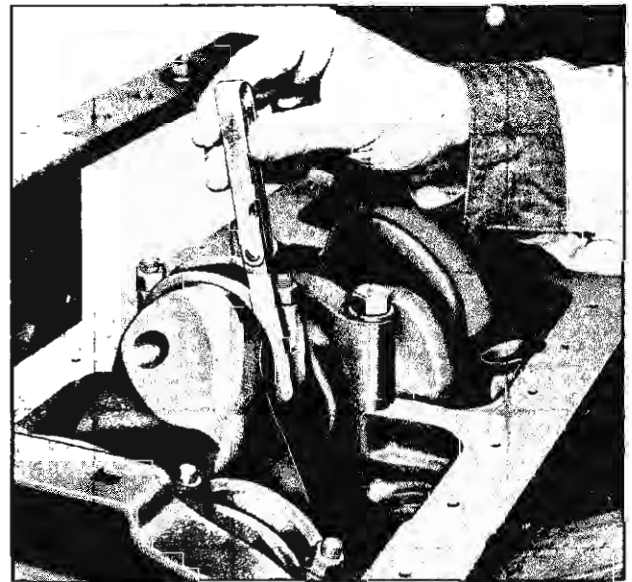

Fig. 41—Checking Connecting Rod Side Clearance
9. Check connecting rod clearance between upper half of connecting rod and side of crank pin (fig. 41). See engine specifications for clearance.